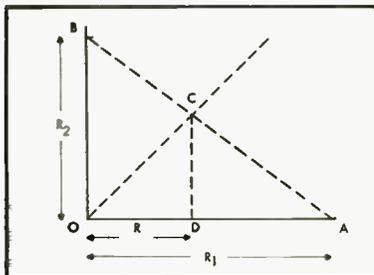

Fig. 1. Graphical solution for two resistances in parallel.
Fig. 1. The development of the distortionless push-pull electrostatic loudspeaker unit: (A) the basic arrangement with its drive unit; (B) this produces a linear driving force on the diaphragm, provided the diaphragm does not move; (C) when the diaphragm moves, the driving force becomes non-linear; (D) preventing the charge flow, mentioned in the text, by means of the resistor R, eliminates, or reduces, this non-linearity of driving force.
The obvious way to improve this situation is to provide a push-pull arrangement, as shown basically at Fig. 1. This means that the second harmonic in the driving force will be balanced out. However this does not get rid of our distortion completely: under this condition the harmonic component of the driving force is only eliminated *provided the diaphragm spacing remains unchanged during the cycle*, which means that it must not move, and if the diaphragm does not move, how is it going to radiate any sound?
the diagram of Fig. 1.1